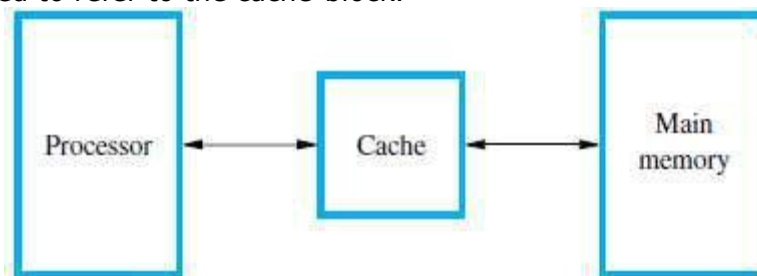

Figure 8.15 Use of a cache memory.
- Remainder of the program is accessed relatively infrequently (Figure 8.15).